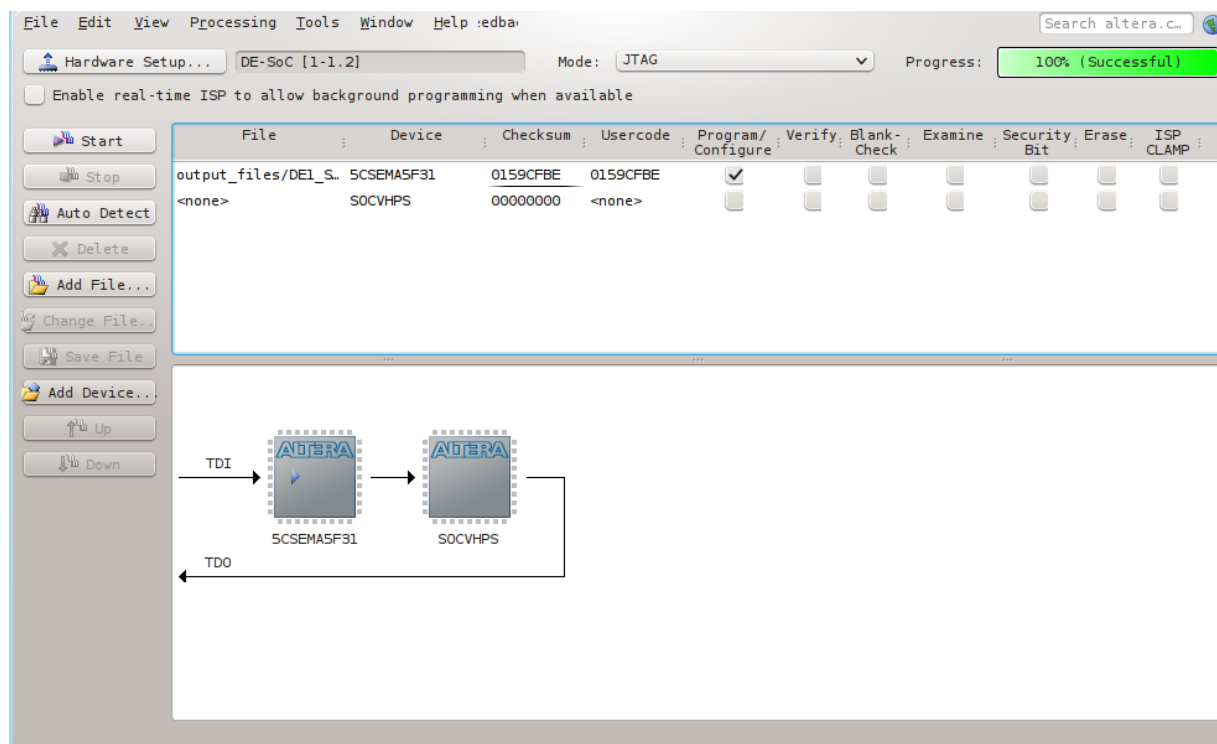

Figure 8-19. Programming the FPGA
41. Enable the “Program/Configure” checkbox for device “5CSEMA5F31”, then press the “Start” button, as shown in Figure 8-19.